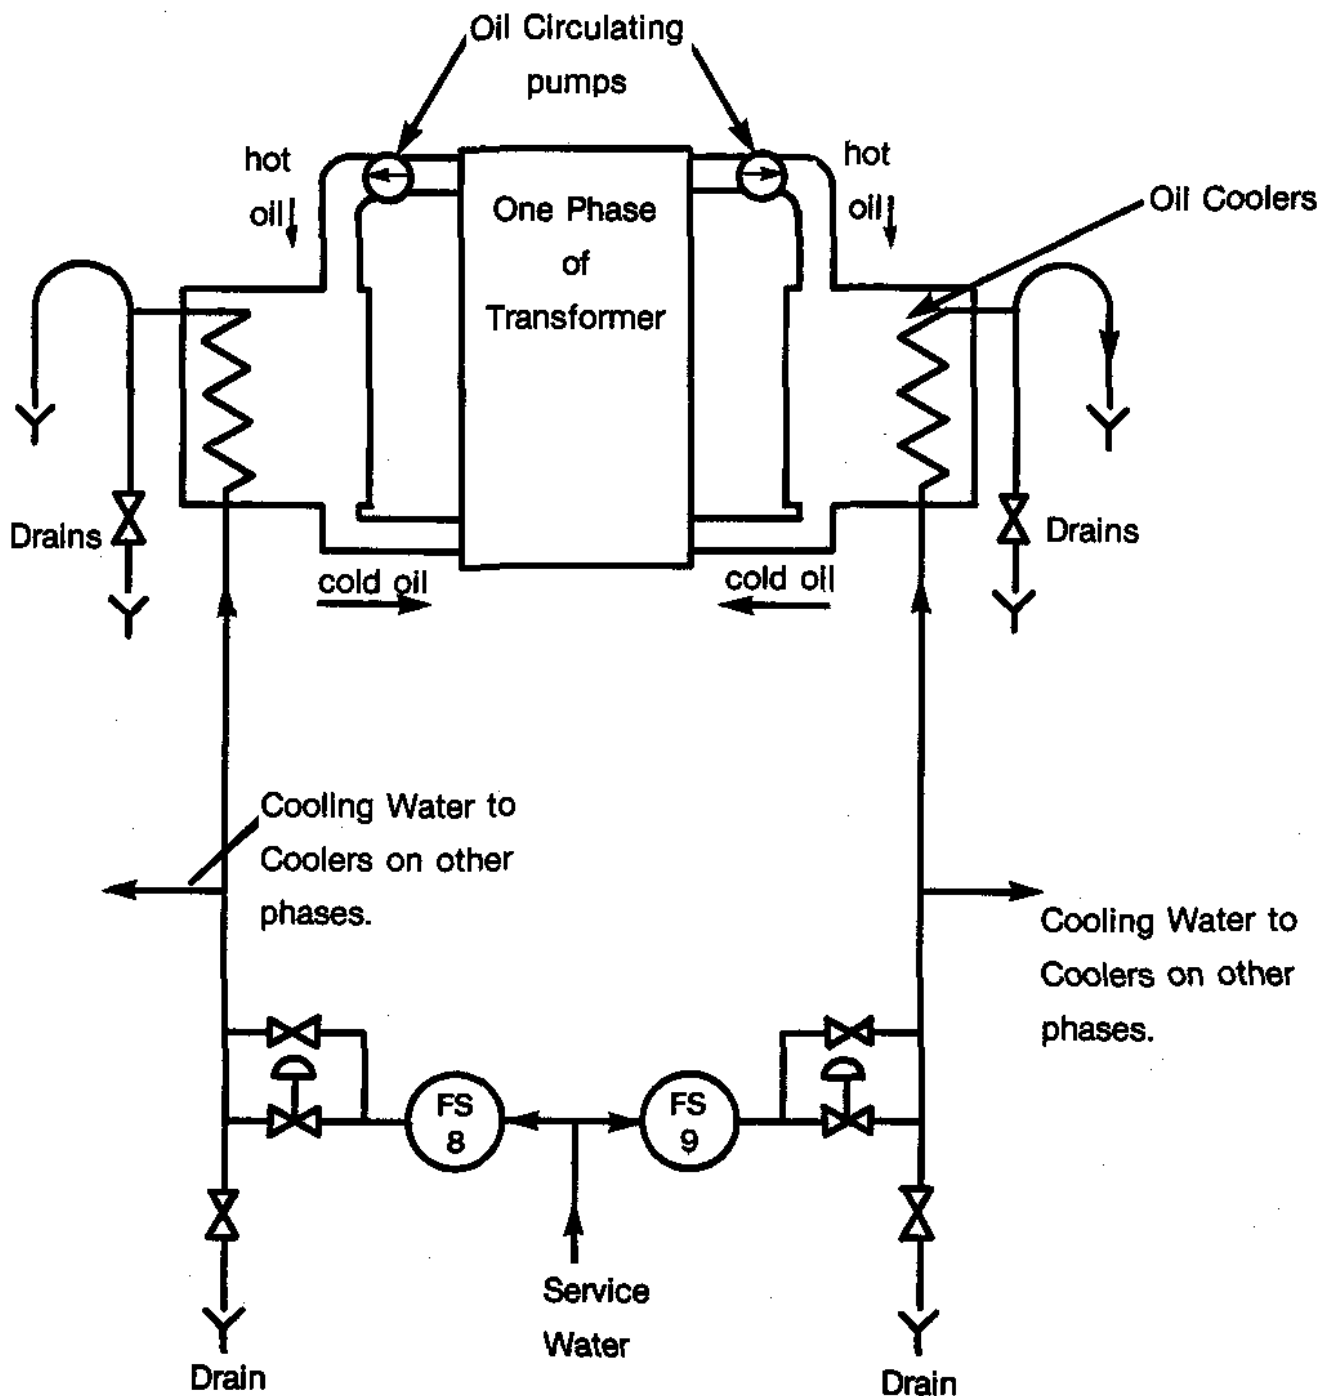

Figure 5: Cooling System for Main Transformers at Bruce "A" NGS.
In NGD the main transformers are cooled by oil-water heat exchangers. Figure 5 shows a functional arrangement for such a system.
5.1 Operation (Refer to Figure 5)
- (d) Flow switches (FS) are provided to detect an absence or reduction of service water flow. If the flow of water is lower than a predetermined set value, a flow switch initiates an alarm in the control room. The transformer can still be operated at 100% capacity, if one cooler is out of service. However, if both coolers are inoperative, then immediate action is required to trip the transformer and prevent overheating. Station instructions are provided to deal with such circumstances.